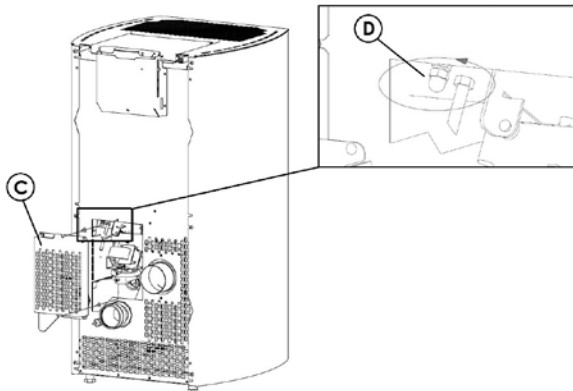

Fig. 35 - Casing removal
- Remove inspection casing "C" from the back of the stove (see Fig. 35).